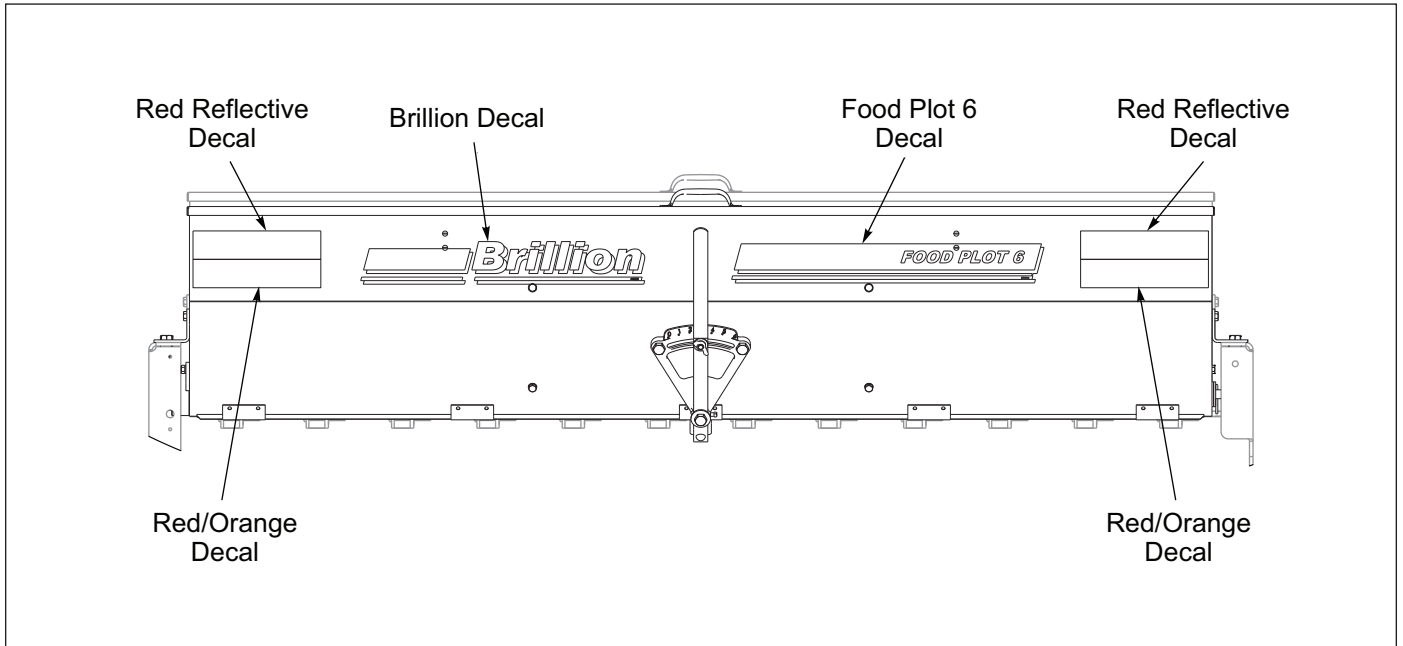

Figure 2-5: Agitator Seed Box Decals
12. Apply Red Reflective Decals, Red/Orange Decals, Food Plot Decal, and Brillion Decal to the rear of the Agitator Seed Box. **See Figure 2-5.**